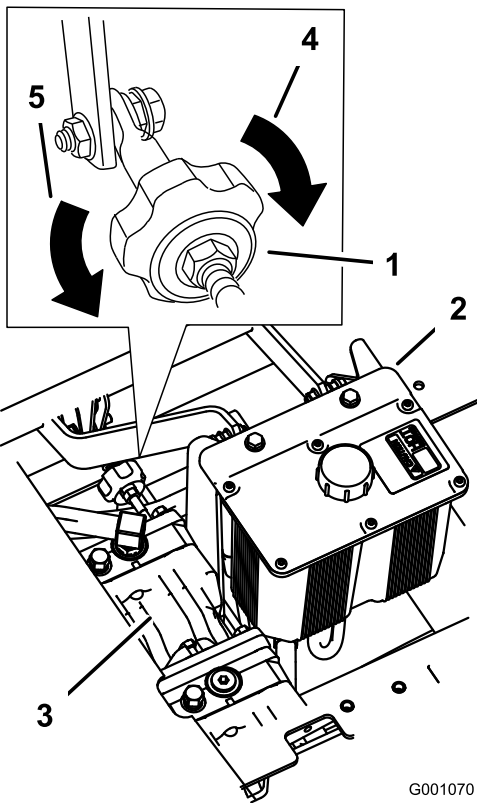

Figure 72
- If the machine tracks to the right, turn the knob toward the left of the machine; refer to Figure 72.
- If the machine tracks to the left, turn the knob toward the right of the machine; refer to Figure 72.